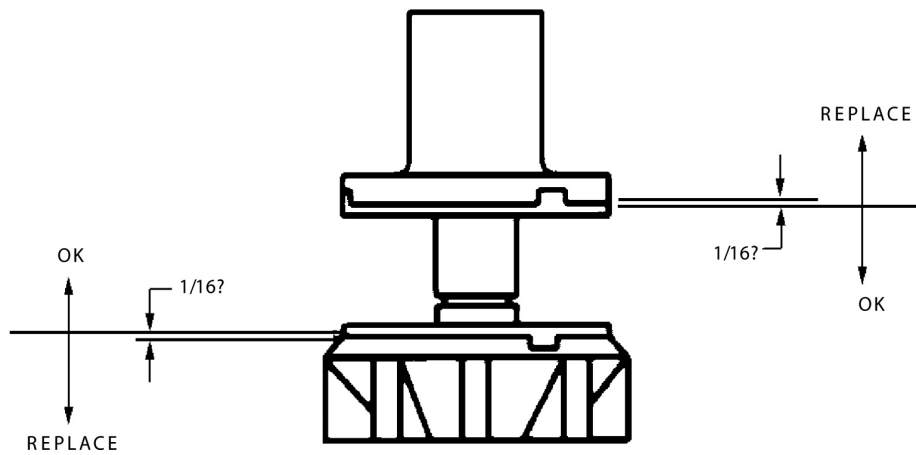

Figure 6. Upper Bearing and Auger Assembly
7. Check white upper bearings on auger assembly. If bearings are less than 1/16” thick, replace. See Figure 6.